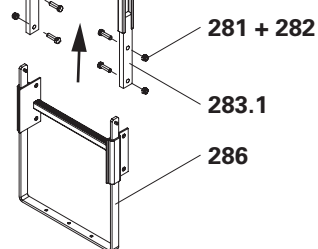

Fig. B3.04
3. Install the ladder base (**286**) in the same manner with 4x bolts M12 x 40 (**281**) and nuts onto the connector (**283.1**) of the lower ladder. (Fig. B3.04)